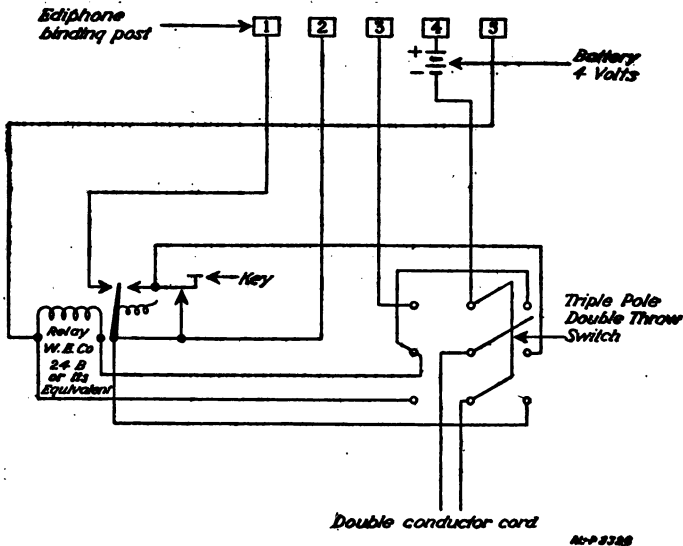

Fig. 49.—External wiring of Ediphone
*f.* The instructor's sounder is connected to a wedge which may be inserted in any desired jack. A relay, key, and a triple-pole, double-throw switch, together with an Ediphone, are installed at the instructor's position, as shown in Figure 49.
The table relay is an ordinary telegraph relay of 100 ohms' resistance and operates on from 30 to 50 milliamperes of current. There should be three local binding posts on this relay, so that the proper connections may be made as shown in Fig. 49.